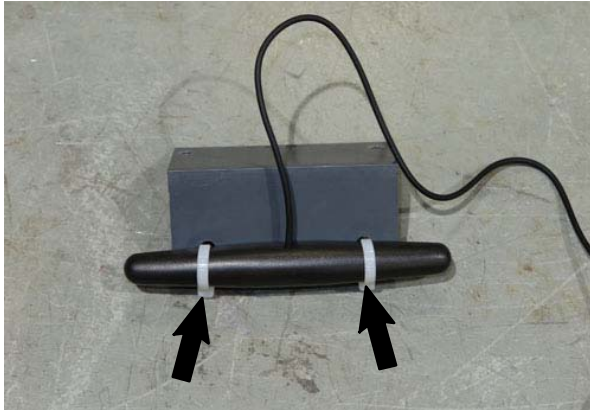

FIG. 6
16. Use two cable ties (18) to install the antenna (6) onto the antenna bracket (19). (Fig. 6)